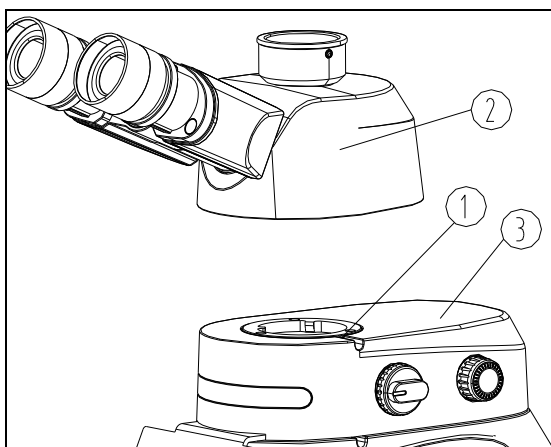

Fig. 27
4. Put the dovetail interface at the bottom of the binocular/ trinocular observation head ② into the interface on the LED fluorescent illuminator ③ interface seat, and tighten the locking screw ① with the hex wrench. (See Fig. 27)